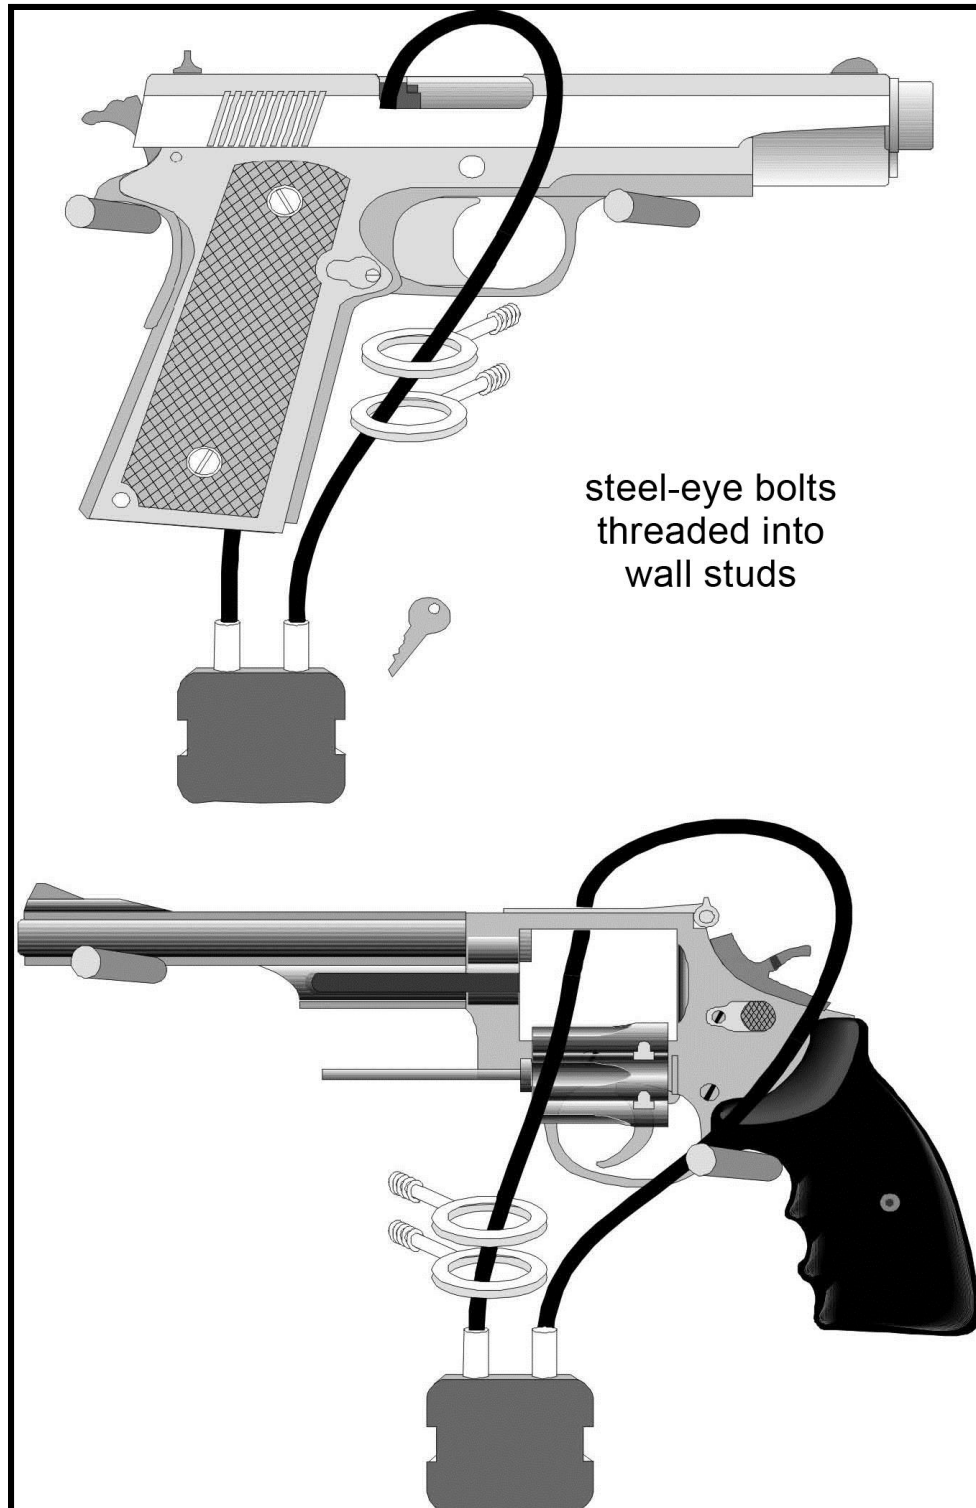

Figure 136. Display
- it is securely attached to a non-portable structure that cannot be easily removed (Figure 136); and